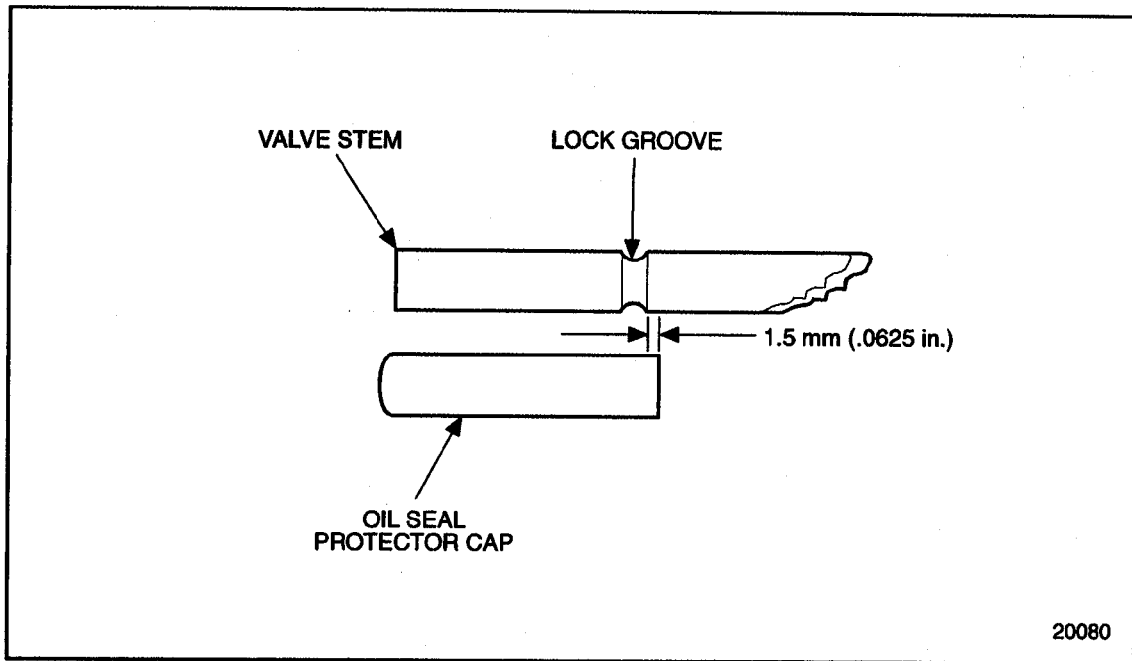

Figure 1-85 Oil Seal Protection Cap Sizing
3. Check the length of the plastic seal protector cap relative to the lock groove on the valve stem. If the seal protector cap extends more than 1.6 mm (1/16 in.) beyond the groove, trim off the excess length of the cap. See Figure 1-85.